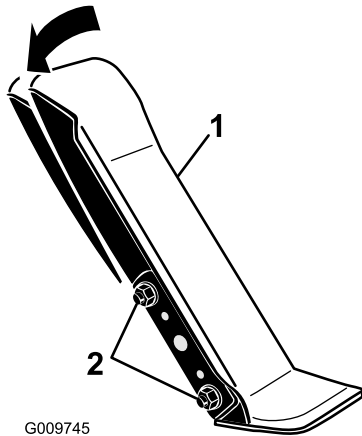

Figure 102
1. Loosen the 2 nuts and bolts securing the left side of the traction pedal to the bracket (Figure 102).
2. Pivot the pedal to the desired operating angle and tighten the nuts (Figure 102).